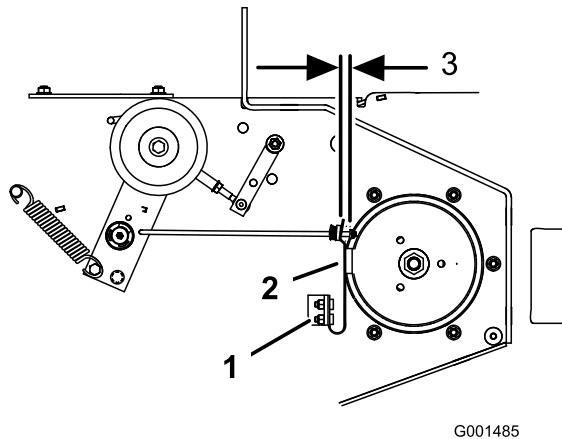

Figure 63
3. If necessary, adjust the spring mounting bolts so that the blade brake pad rubs against both sides of the pulley groove (Figure 63).
4. Adjust the nut at the end of the blade brake rod until there is 1/8-3/16 inch (3 mm -5 mm) between the nut and spacer (Figure 63).